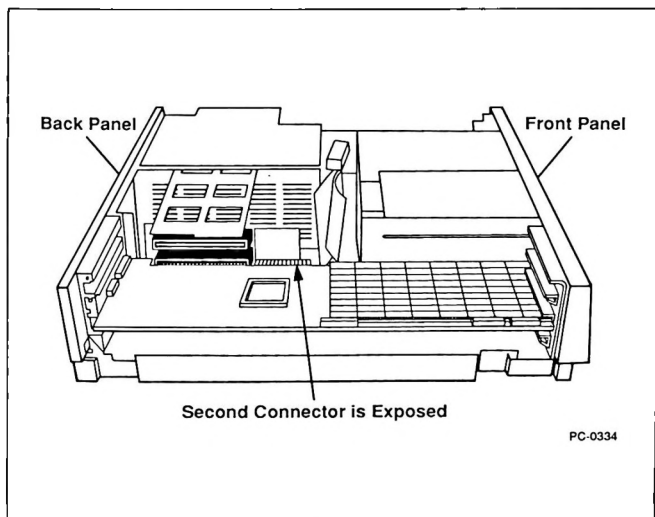

Figure 6-20 *Above™ Board correctly seated in an IBM Personal System/2 Model 30*
- 9 The board should slide easily most of the way into the unused expansion slot. When you feel some resistance, check the alignment. When aligned, push firmly to seat the board in the expansion slot connector. Figure 6-20 shows the Above Board correctly seated in an expansion slot.
▼ **NOTE** *When the Above Board is correctly seated in the Model 30 expansion slot, the board's second connector is exposed as shown in Figure 6-20. The second connector is not exposed in a Model 30 286.*